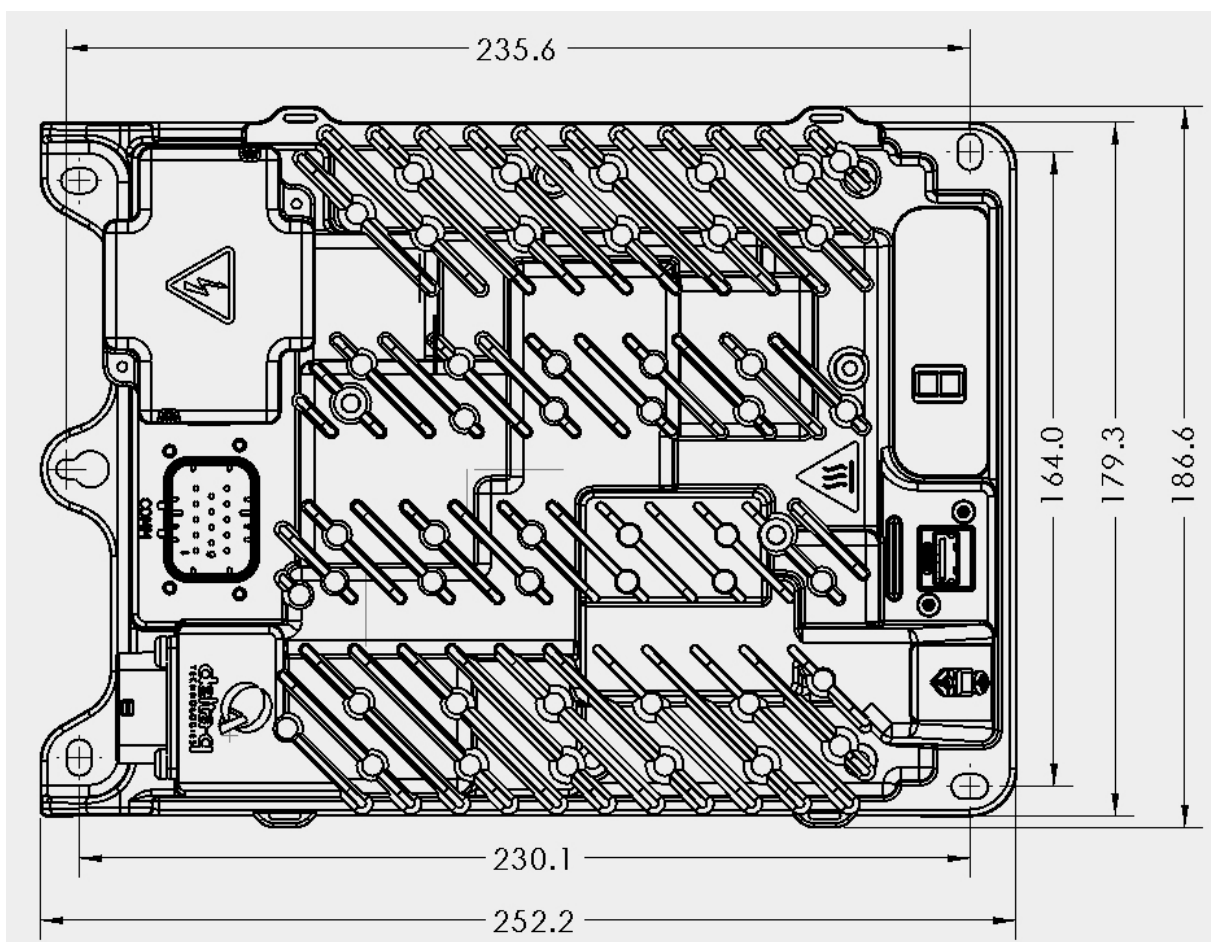

Figure 11. Charger Mounting Points
- ✦ Mount the charger securely using the mounting points shown in Figure 11.
The IC650 Charger has either two or three connectors on the rear panel depending on its configuration. The Comm model with all connectors is shown in Figure 11. The Base model does not have a Comm connector, but “Comm” will still be visible on the charger because of the enclosure casting process.